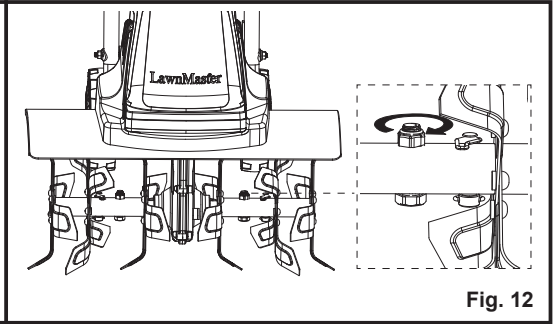

Fig. 12
3. Tighten the lock nut hand-tight using a fork wrench or ratchet with socket (not included) (Fig. 12).